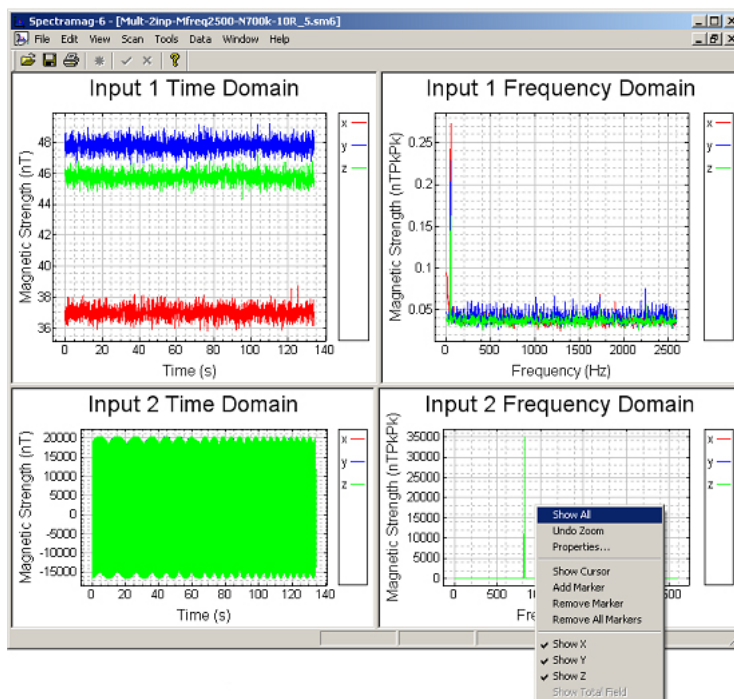

Figure 16: Spectramag-6 plot settings.
When many plots are shown as in **Figure 16**, the size of each plot can also be adjusted by dragging the borders of the plot.
**Add Marker (Figure 16)** causes a marker to be added to a plot at the position of the cursor. It also shows the X and Y values. The cursor may then be moved to another point, or may be removed by clicking on the **Show Cursor** option again. Markers may be removed using **Remove Marker** option. This causes the markers to be removed sequentially starting with the most recent. The **Remove All Markers** option clears all the markers from the current display.
The **Show X, Y, Z** and **Total Field** menu items (**Figure 16**) allow the individual axes to be added or removed from the plot by clicking the appropriate line. This allows an individual axis to be viewed and analysed during and after data acquisition.